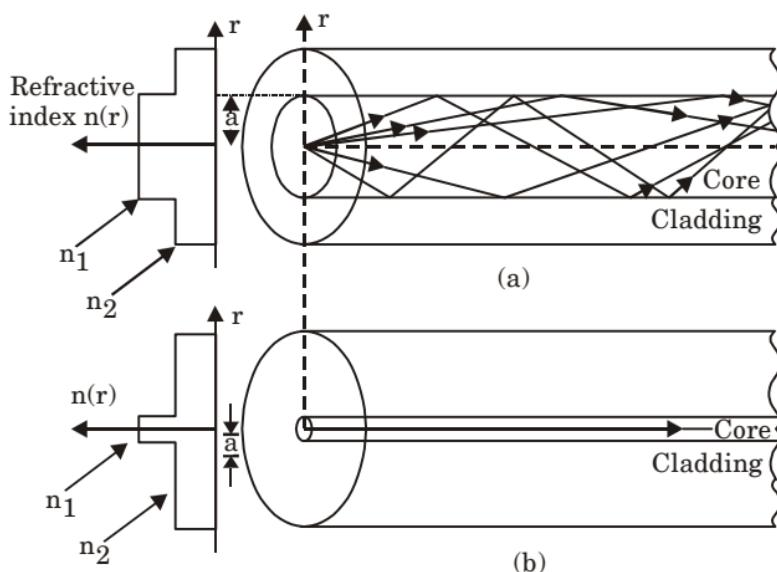

Fig. 10. The refractive index profile and transmission in step index fibers : (a) multimode step index fiber ; (b) single-mode step index fiber.
5. The Fig. 10 shows a multimode step index fiber and single mode fiber. In multimode step index fiber core diameter is around 50 μm or greater, which is large enough to allow the propagation of many modes within the fiber whereas single mode step index fiber has a very fine thin core, so that only one mode can be propagated.